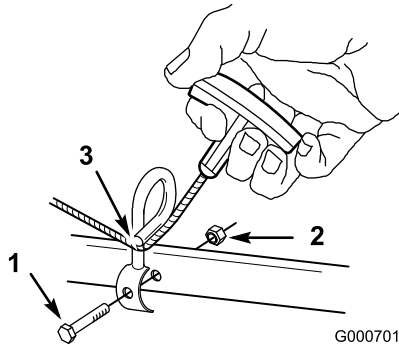

Figure 4
3. Secure starter rope guide to the lower handle with a bolt (1/4 x 1-3/4 inches) and locknut (1/4 inch) (Figure 4).
4. Pull the starter rope through the guide (Figure 4).